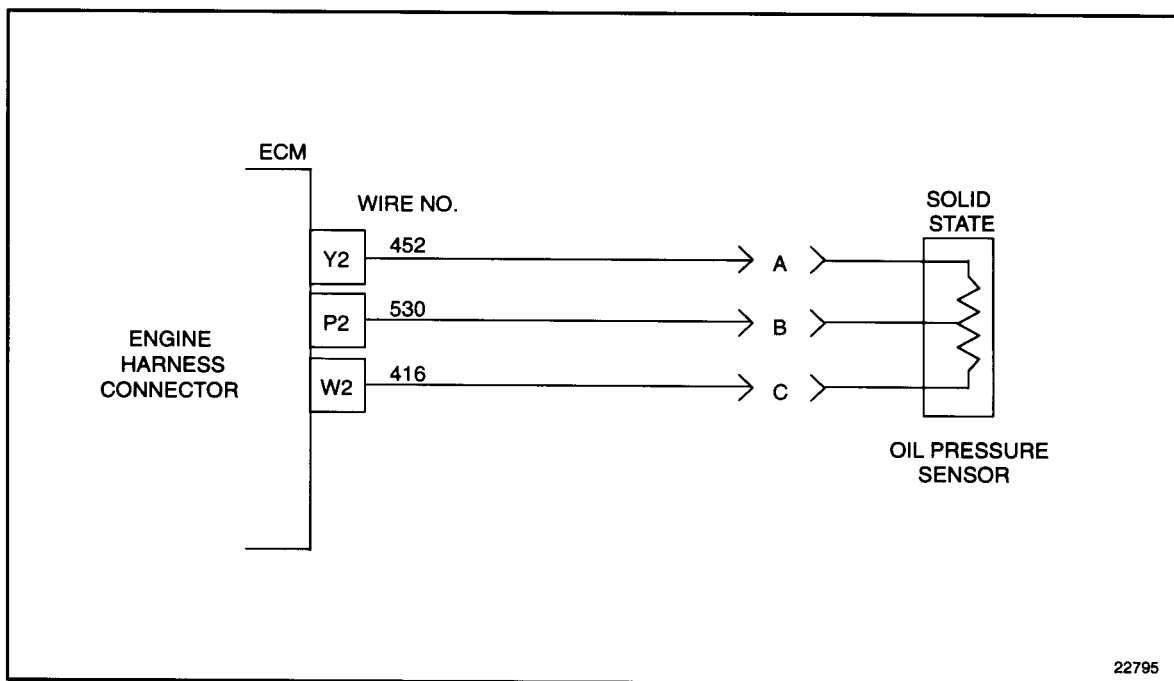

Figure 36-2 Engine Harness Connector to Oil Pressure Sensor
2. Disconnect the engine harness connector at the ECM. See Figure 36-2.